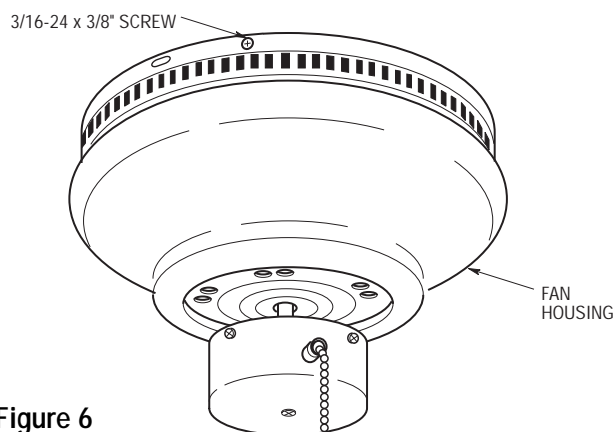

Figure 6
- 1. Align the four holes in the fan housing with the holes in the mounting plate and install four 3/16-24 x 3/8" screws (Figure 6).